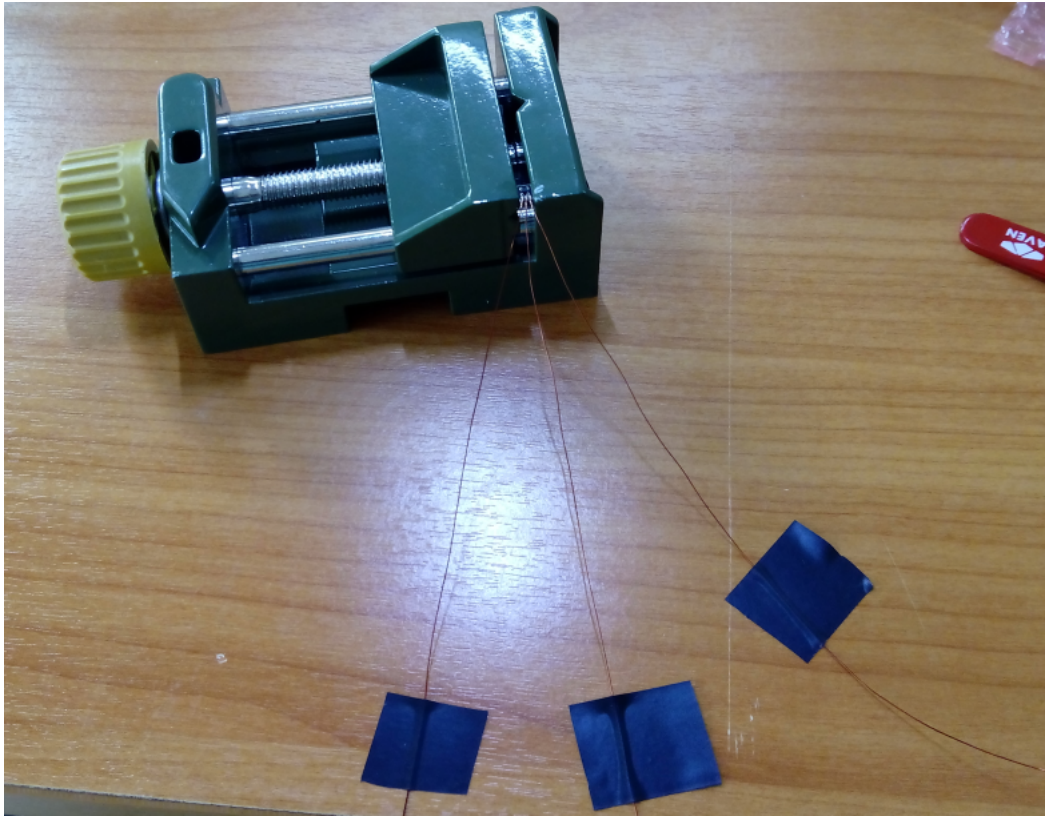

Figure 5: Bench setup before soldering
- Setup as in the Figure 5, a small drilling machine vice will do the job to hold the board. The wire ends are fixed with electrical tape on the bench. Define the angle you need for the wires.